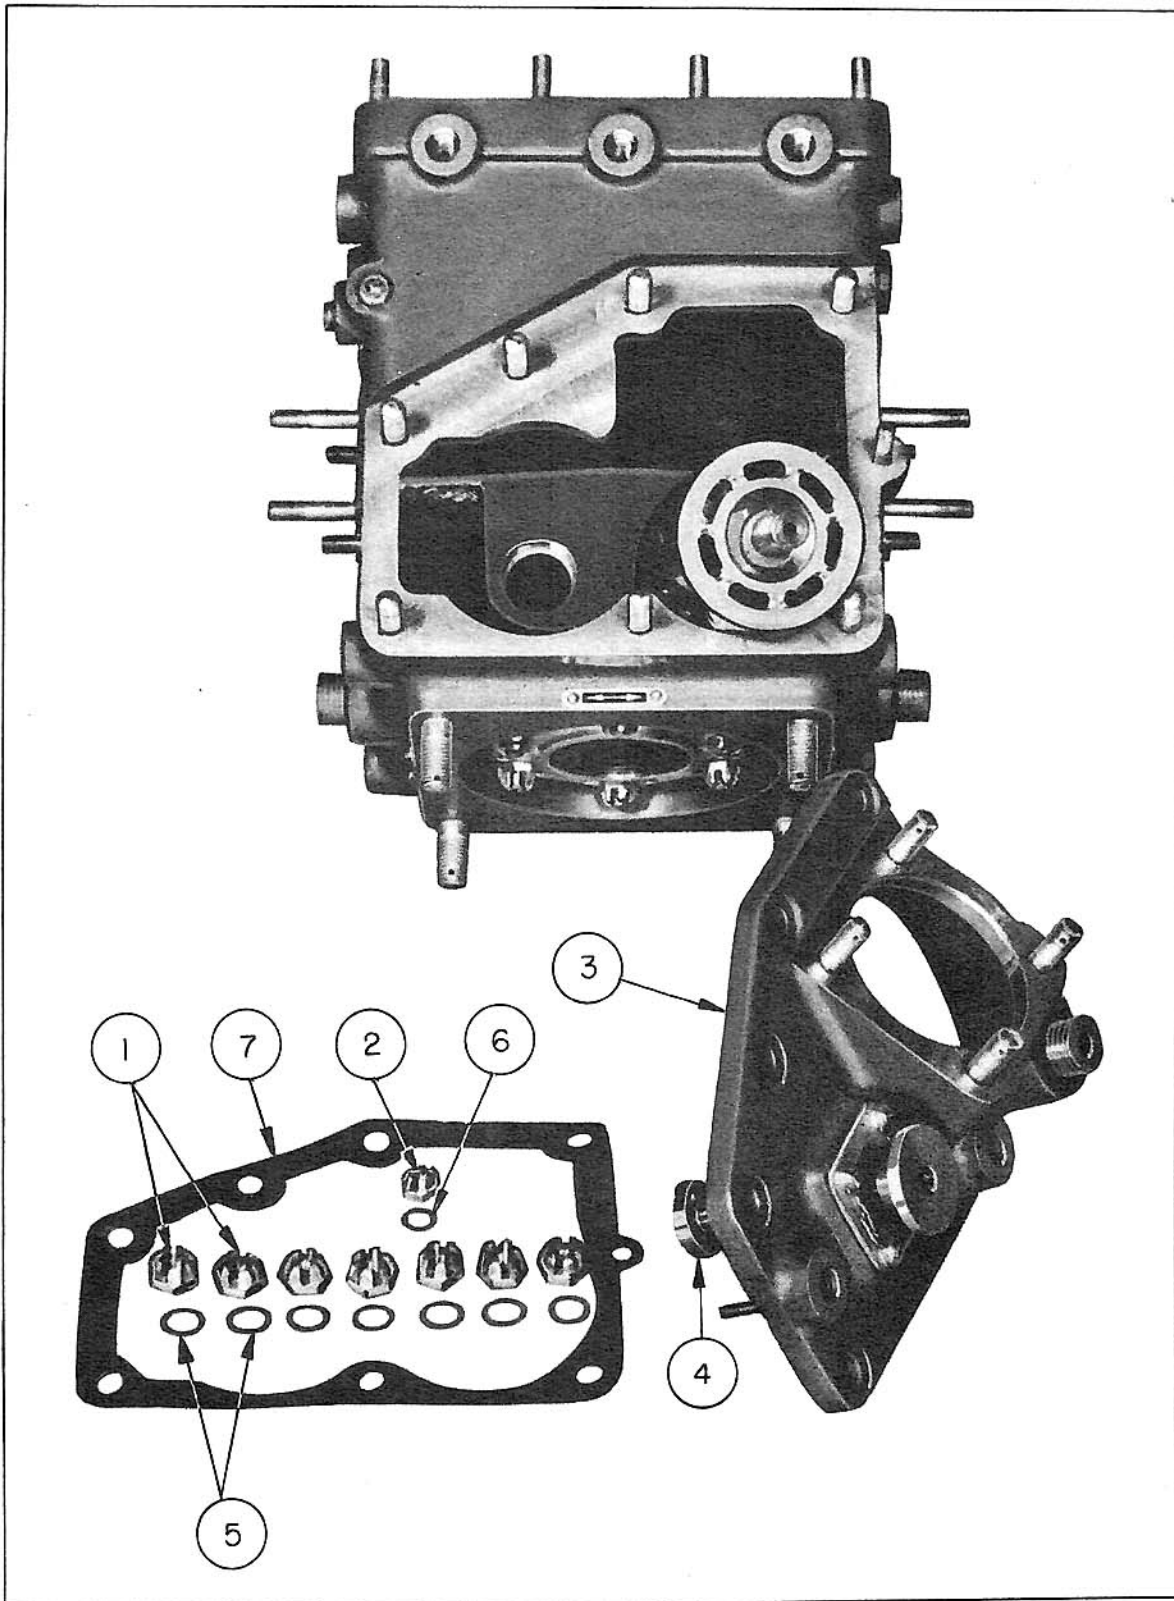

FIGURE 30
10. Side Cover (Fig. 30)
11. Side Cover (See Figure 30.) - a. Remove 7 nuts (1) and one nut (2) which hold the side cover (3) to the housing. Lift the cover up slowly, tapping it lightly on all four sides so that the side cover and control shaft sub-assembly (4) will come away from the main housing without distortion.
3. Side Cover (Fig. 30)
4. Side Cover (See Figure 30.) - a. Place the side cover gasket (7) between the side cover (3) and the housing. Put on the 7 washers (5) and 7 nuts (1), also the washer (6) and nut (2), screwing them down securely. (The side cover contains the control shaft sub-assembly (4), and care should be used when placing the cover so as to fit the control shaft bearing properly in the housing.)